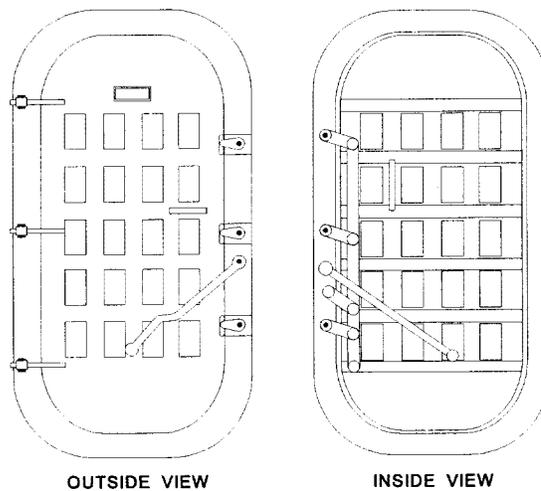

Figure 1-3. Quick-Acting Airtight Door
- c. Quick-Acting Airtight Doors. (See figure 1-3.) These doors are usually located above the V-lines and are used to access fan rooms, storerooms, and spaces where interior bulkheads are required to be airtight. These doors have three dogs on the handle side and no dogs on the hinge side, and are designed to prevent the spread of fire, toxic vapors, and smoke in the event of shipboard casualties.